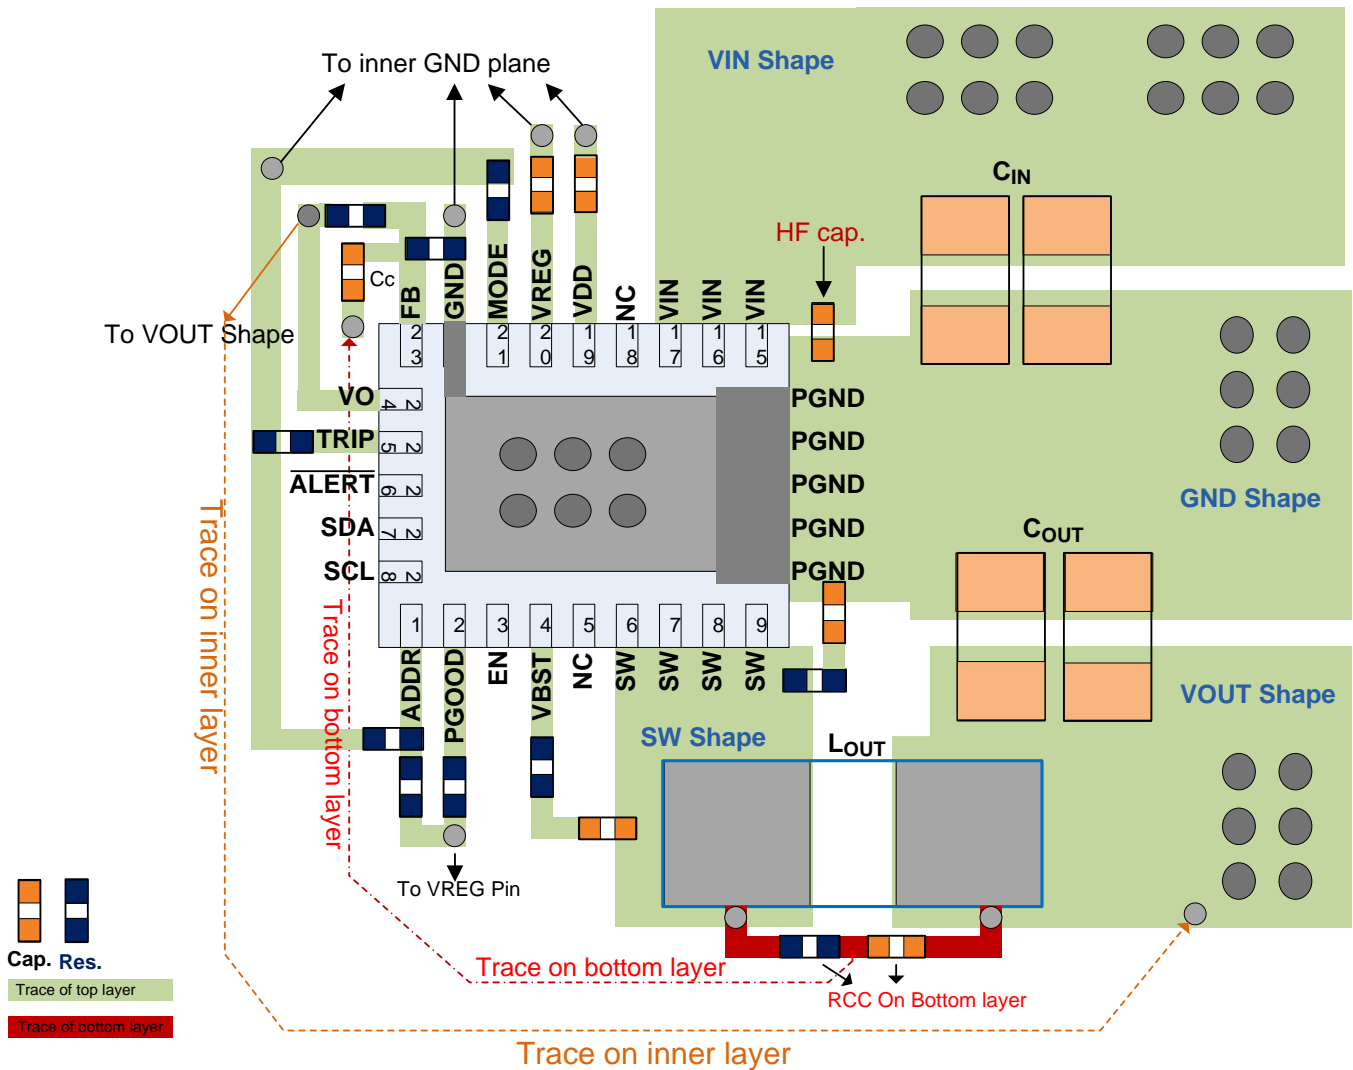

Figure 54. Layout Recommendation
- See Figure 54 for the layout recommendation.